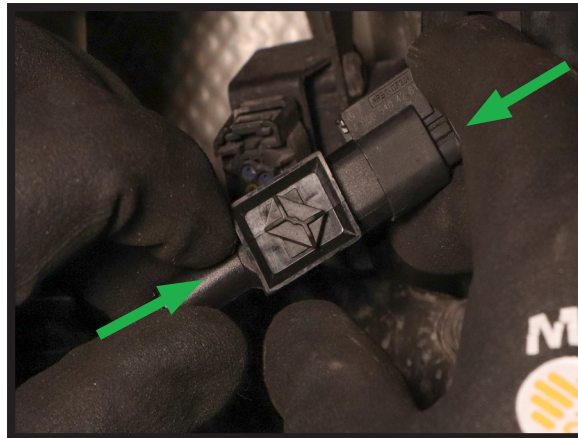

FIGURE 16
5. RECONNECT THE AIR STRUT SOLENOID WIRE. (FIGURE 16)